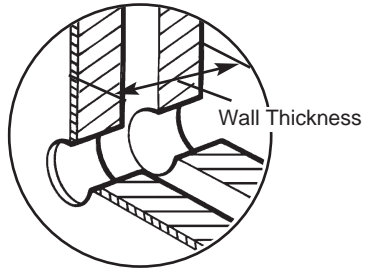

Fig. 61
3. Measure the wall thickness and from this dimension subtract 10mm ($\frac{3}{8}$ in) (Fig. 61).